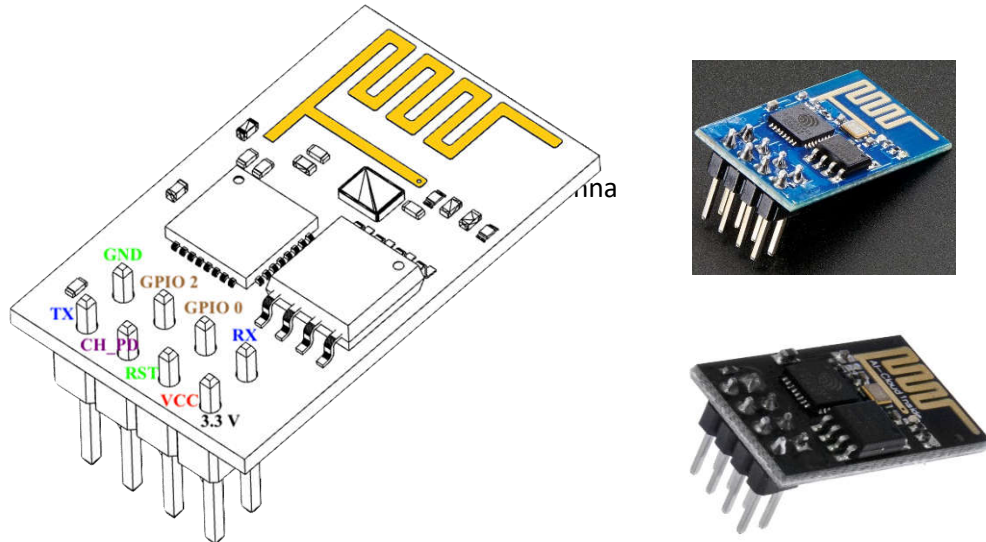

Figure 1: ESP8266-01 Pinout and Commonly Available Modules.
Fig. 1 shows the ESP8266-01 breakout model, which basically has the “minimal” pinout required for operation as well as the printed/PCB antenna. In this report, the pinout is basically used for:
Fig. 1 also shows two of the most common modules available for purchase since several years.
- A few extra available pins for I/O controlled from the ESP8266 itself, while maintaining the pins already described for the ESP8266-01 in Fig. 1: Vcc (3.3v), Gnd, CH_PD, Rx, Tx, and GPIO0.